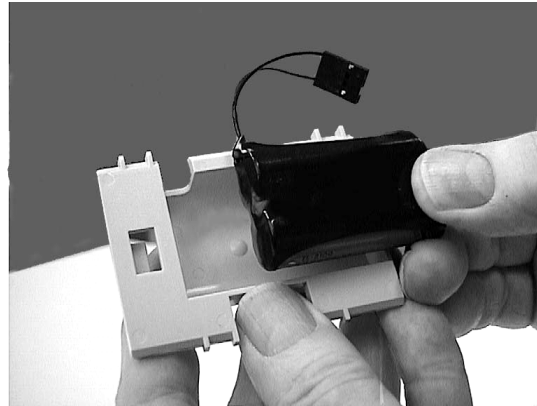

**Figure 10: Locating knockout for cable assembly on A-Base meters**
1. With the kV™ Meter base facing you, locate the knockout on the left side of the base (see Figure 10) and remove it by tapping it with a punch. Make sure the hole is clean and the knockout parts are removed.